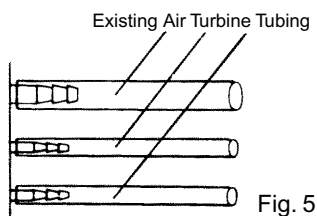

Fig. 5
- 2) If your existing tubing is connected with a burr sleeve but the Phatelus Light Pack tubing is not able to be connected due to the difference in tubing size, cut the existing tubing about 5cm from the end of the burr sleeve connector and connect with the straight burr sleeve provided. (Fig.5)